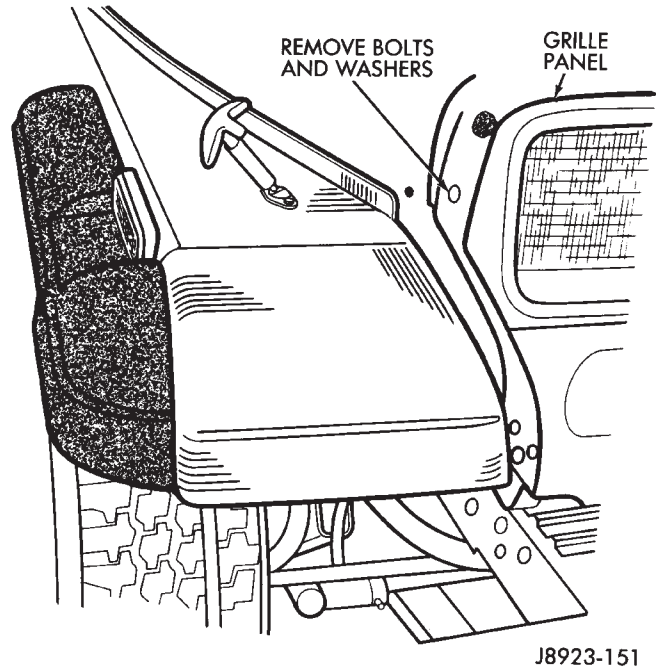

Fig. 7 Grille Panel Front Bolt
(6) Remove the bolts and washers that attach the grille panel to the fenders (Fig. 7).
(4) Attach the grille panel to the front crossmember.
(5) Install the grille panel-to-front fender bolts (Fig. 7). Tighten the retaining screws to 27 N·m (20 ft-lbs) torque.